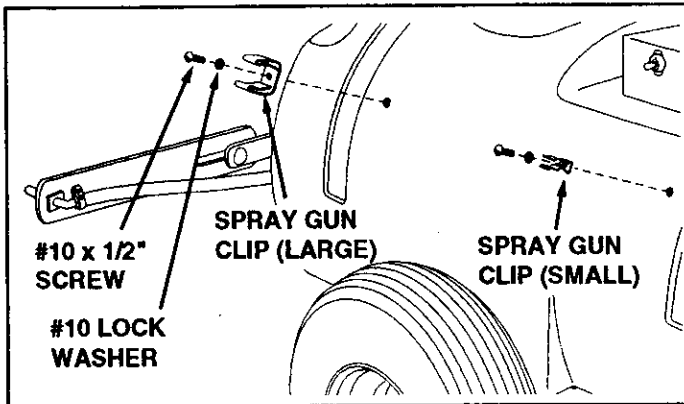

FIGURE 9
- Assemble the large and small spray gun clips to the side of the tank using two #10 x 1/2" screws and #10 lock washers. See figure 9.